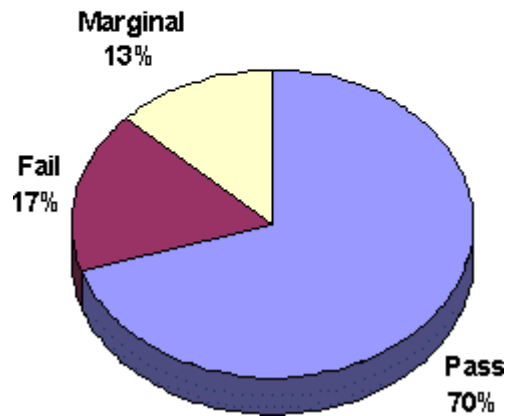

Figure 2. PEM Assessment Results
The Naval Surface Warfare Center, Crane Division has been periodically assessing PEMs for over 25 years. For an example, they recently assessed over 3,000 PEMs for Trident Fire Control, Trident Navigation, CEC, Army Tank Command (TACOM), and the NAVSEA Parts Reliability and Derating Manual Programs from 1997 through 1999. Figure 2 shows the number of failed, marginal, and passing PEMs during this assessment period. The more common failures and anomalies found during this assessment are (1) improper moisture-sensitivity-level of package, (2) contamination, (3) poor die-paddle construction, (4) poor wire-bonds, (5) voiding, and (6) delaminations. Having 30% of the total microcircuits either failing or being marginal enforces the obvious need for PEM assessments and monitoring.